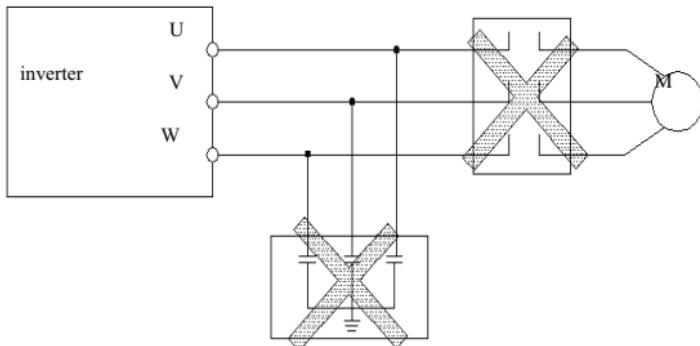

Fig.3-3 Forbid to use contactor and absorbing capacitor
- (1) Assure power be cut off completely for above 10 minutes before wiring, otherwise there is danger of getting electric shock.
- (2) Forbid connecting power wire to output U, V, W of the inverter.
- (3) If there is current leakage inside inverter, when current leakage greater than 5mA for medium & big power inverter, inverter and motor must be earth grounding for safety assurance, and the diameter of earth grounding copper cable is greater than 3.5mm², resistor less than 10Ω.
- (4) Before shipment compression resistance test of the inverter is passed, so users should not conduct compression resistance test again.
- (5) Do not add absorbing capacitor or other resistance-capacitor absorbing device between inverter and motor; also do not add electromagnetic contact, show as Fig.3-3
- (6) To provide inverter over-current protection in output side and convenient maintenance under power off, it should be connected to power source through relay.
- (7) Relay, input & output circuit wiring (X1~X7、Y1、Y2/DO、TA、TB、TC、AI1、AI2、AO、485A、485B) should select greater than 0.75mm² stranded wire or shielding wire. One end of the shielding layer hang in the air, and the other end connect to inverter earth grounding terminal, connection wire shorter than 20m.